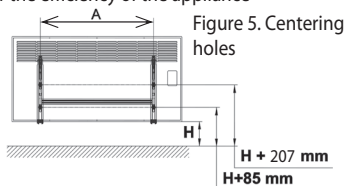
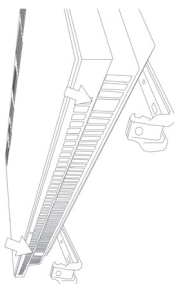

Figure 5. Centering holes
Figure 6. Placing the convector to the lower part of the wall mounting
2. Correct space has to be measured in order that the connection cord can easily be connected to the electric socket. After determining the place the holes for montage must be drilled according to the method shown in Figure 7. To fix this appliance you can use the wall mounting bracket. (Figure 5) Mounting bracket can be used as a template for positioning and drilling points. You can place the bracket on the wall and measure the space between the floor and the lower part of the bracket as min 100 mm or max. 200 mm. Mark the screw-holes through the holes with an appropriate pen. You have to be careful to ensure the safety zones are kept free in order that the appliance can work efficiently. (Figure 6.)